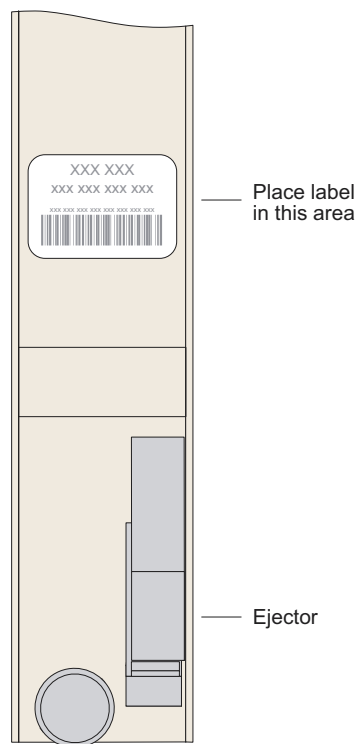

Figure 3 Affixing the faceplate label
- 4 Affix the label to the faceplate above the lower ejector (see Figure 3).